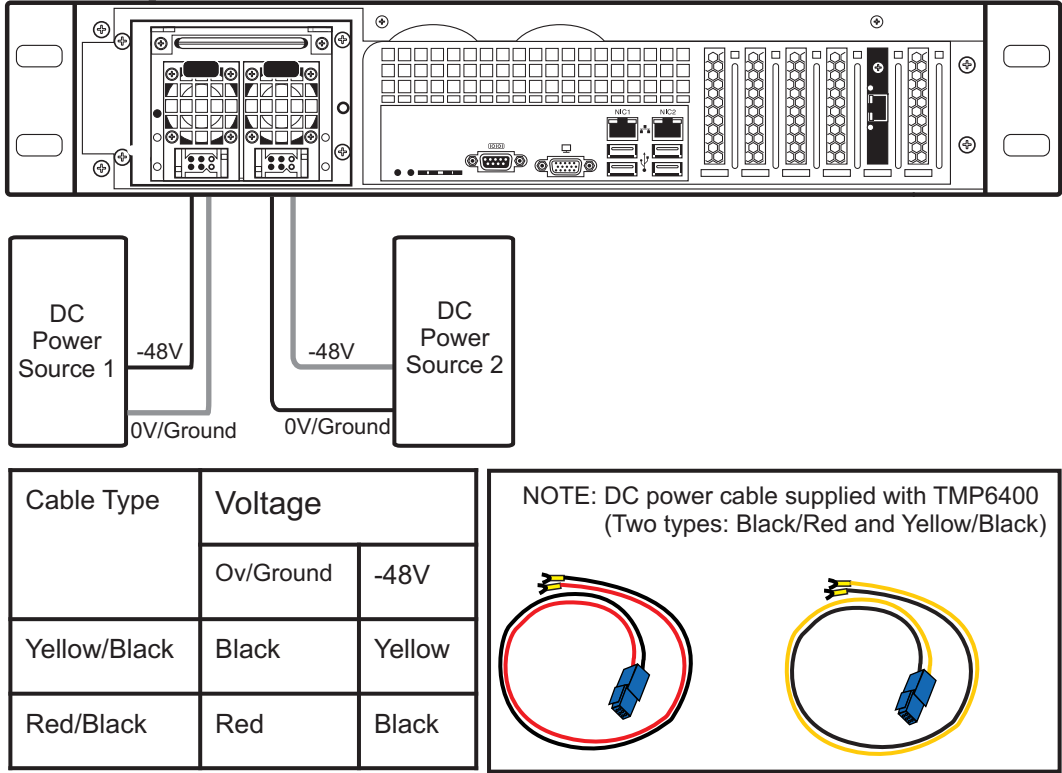

Figure 2.21 TMP6400-CTRL DC Power Connections
1. Connect the first DC power connector of the TMP6400-CTRL to DC power source one. See figure 2.21 on page 27.